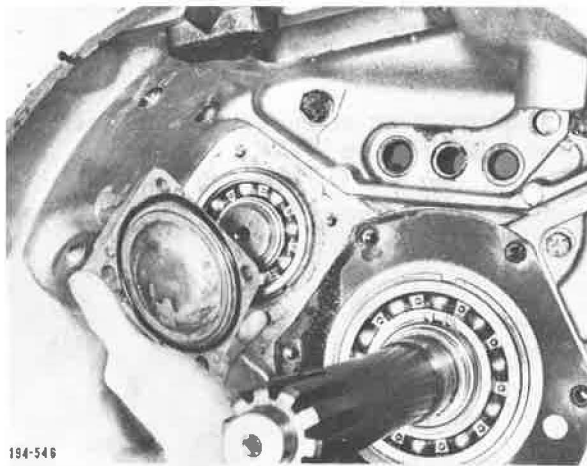

Figure 5-263. Removing Covers
11. Remove countershaft front covers. See Figure 5-263.